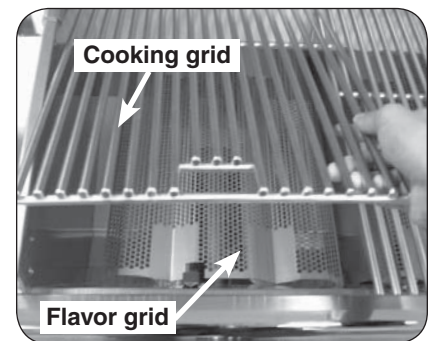

Fig. 1-1 Remove cooking and flavor grid
2. Remove the cooking grid from above the burner by lifting it first from the front and set it aside (see Fig. 1-1).
3. Remove the flavor grid from above the burner and set it aside (see Fig. 1-1). The flavor grid will not be used with the infrared burner.